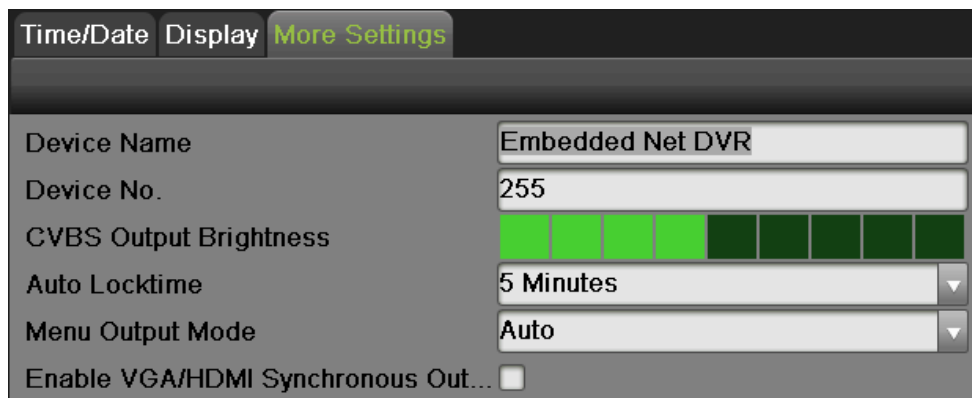

Figure 31 More Settings Menu
2. Set device name, device no., CVBS output brightness, auto lock time, menu output mode and VGA/HDMI synchronous output by going to Menu > System Configuration > General > More Settings, as shown in Figure 31.